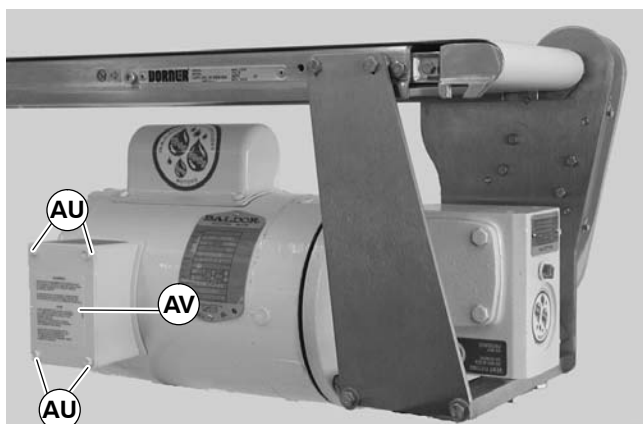

Figure 46
1. Loosen terminal box screws (AU of Figure 46) and remove cover (AV).